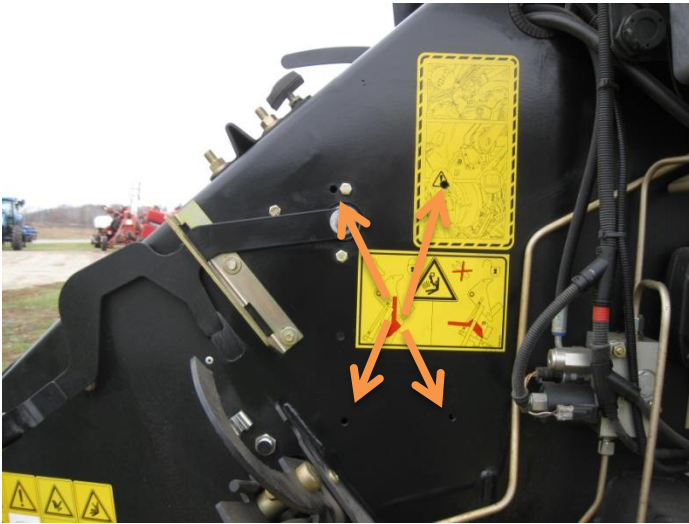

Figure 5
3. Locate the four holes by the fly wheel brake. (Figure 5)